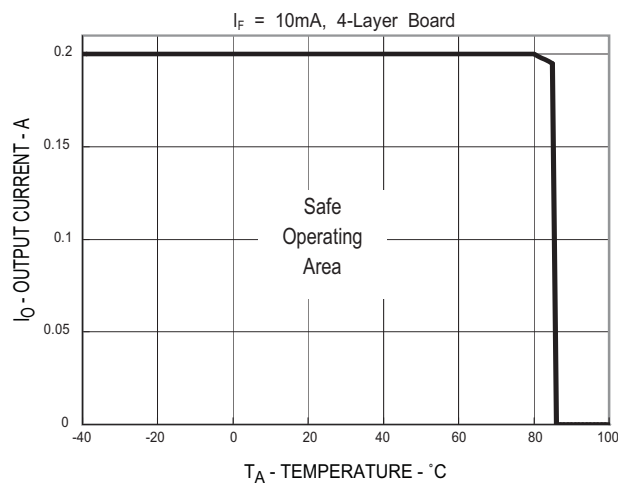

Figure 1. Maximum Output Current Rating vs Ambient Temperature (ASSR-1218-003E)
- For derating, refer to Figure 1, 2, 3 and 4.
Figure 1, 2, 3 and 4 specify the maximum average output current allowable for a given ambient temperature. The maximum allowable output current and power dissipation are related by the expression $R_{ss} = P_o(\text{max}) / (I_o(\text{max}))^2$ from which R_{ss} can be calculated. Staying within the safe area assures that the steady state MOSFET junction temperature remains less than 125°C .